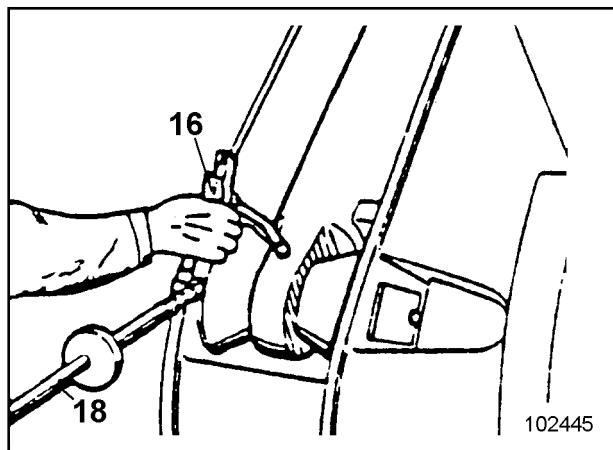
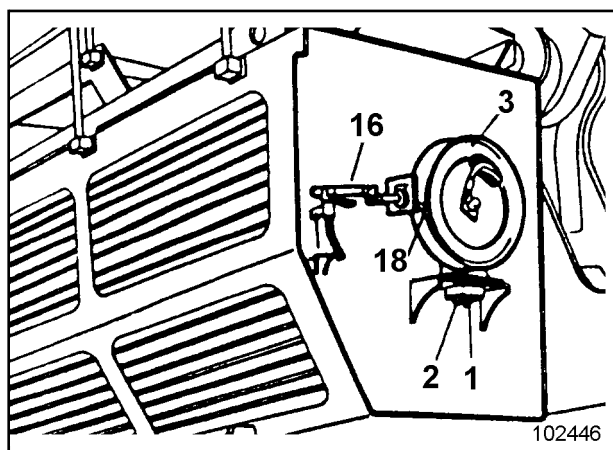

Fig. 8
Fig. 9
Lube points (Fig. 8) must be greased regularly using grease pistol (16, Fig. 8 and 9) or a grease gun.
- Press button (1, Fig. 9) on switch box under the hose reel (3). The pilot lamp (2) comes on.
- Take pistol (16) from holder (17) and pull hose (18) off reel (3).
There are approx. 10 metres (23 metres optional) of hose on reel (3). This length is sufficient to reach the manual lube points mentioned above when the working equipment is on the ground (Fig. 8).